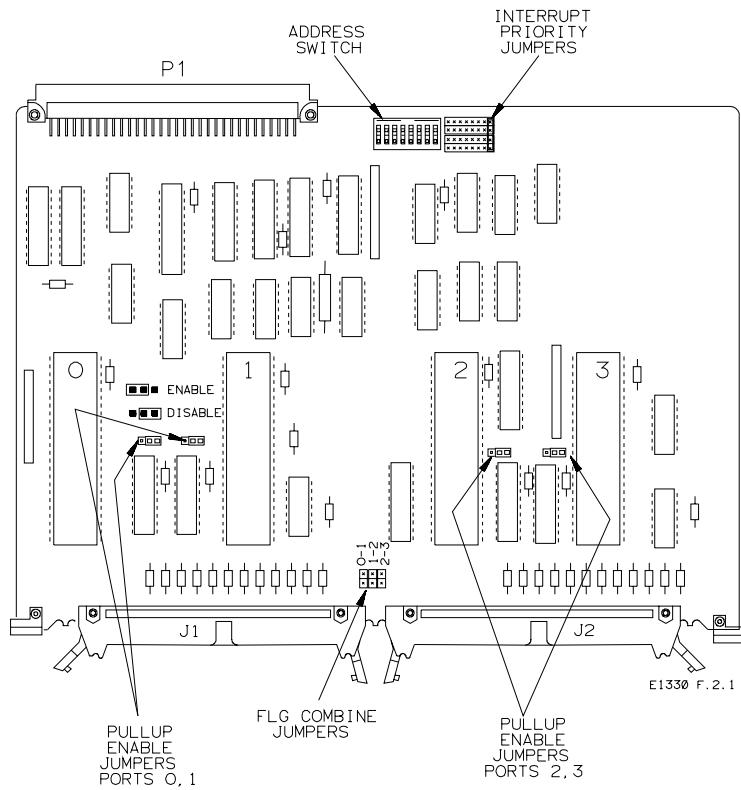
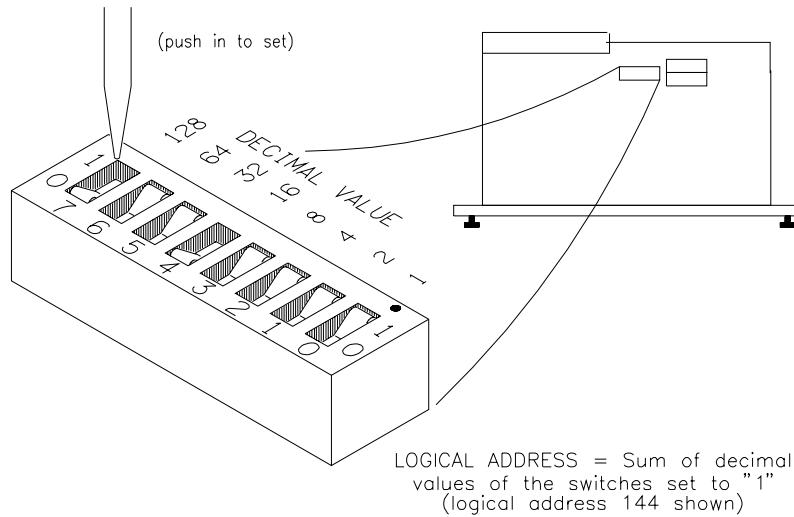

Figure 2-1. HP E1330B Digital I/O Module
Figure 2-2. Logical Address Switch Set at 144
This chapter shows how to configure the Digital I/O module for use in a VXIbus mainframe, connect peripheral devices, and configure the module for operation. Refer to Figure 2-1 for locations of jumpers and switches. This chapter contains the following sections:
Refer to Figure 2-1. In the center rear of the module, next to the P1 connector, you will find the logical address switch. Its factory setting is 144; rockers 4 and 7 are closed, all others are open. You can select the address of the Digital I/O module to any number 0–255 (decimal). The default setting of the address switch is shown in Figure 2-2.
Referring to Figure 2-1, note the pull-up enable jumpers near the middle of each of the large ICs. The data lines of each port can be independently configured for either passive or active pull-up to TTL high levels. The factory-shipped condition is pull-up disabled for all ports. The data lines may be either inputs or outputs. When the data lines are outputs, and the jumper is in the enabled position, the outputs are actively forced high. When the data lines are inputs, the jumper position makes no difference.
Referring to Figure 2-1, near the P1 connector you will find two sets of jumper pins labeled X and 1 through 7 (JM15 and JM16). The Digital I/O module is factory-shipped with the interrupt set to 1. If you need to change the interrupt level you must move *both* jumpers on the blocks. Spare jumpers, used for combining the flag (FLG) lines, are stored on the unused ground pins of this connector when it ships from the factory.
2. Connect the wires on the ribbon cable to the peripheral as described in Figure 2-1 for the GPIO interface.